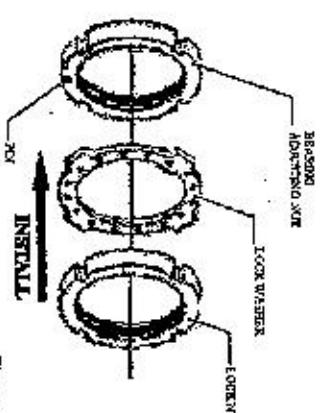

Figure 3
- 1) Install the Bearing Adjusting Nut (with pin) and torque to 35 lb-ft. Back off the Adjusting Nut 90 degrees and re-torque to 16 lb-in. Install the Lock Washer against the Adjusting Nut. Be sure one of the holes in the Lock Washer line up with the pin on the Bearing Adjusting Nut. Install the outer Lock Nut and torque to 150 lb-ft (figure 3).